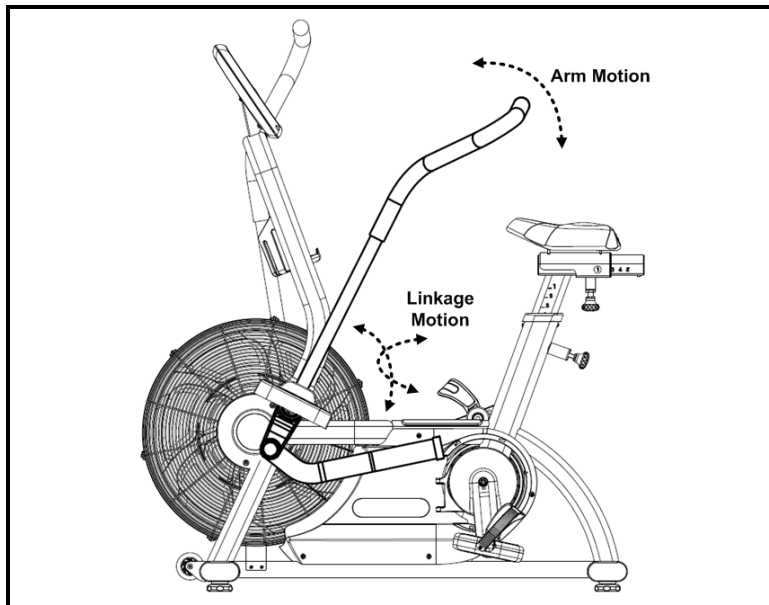

Fig. 3
3. Maneuver the arms and linkages (Fig. 3) in a scissor motion that will move the link arms away from the pedals and provide non-obstructed access to the large side shrouds.